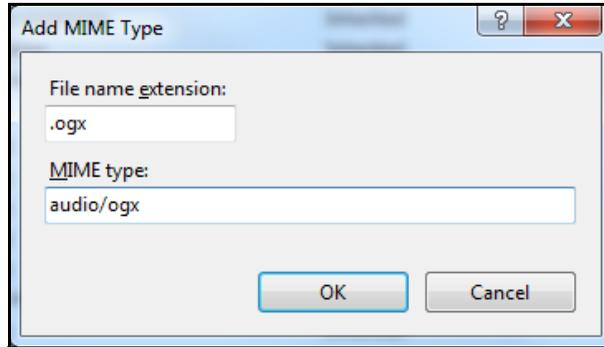

FIGURE 2-16 Add MIME Type ogx
Step 6 In the **Add MIME Type** dialog box, type **.ogg** for the **File name extension** and type **audio/ogg** for **MIME type**, as shown in Figure 2-16.